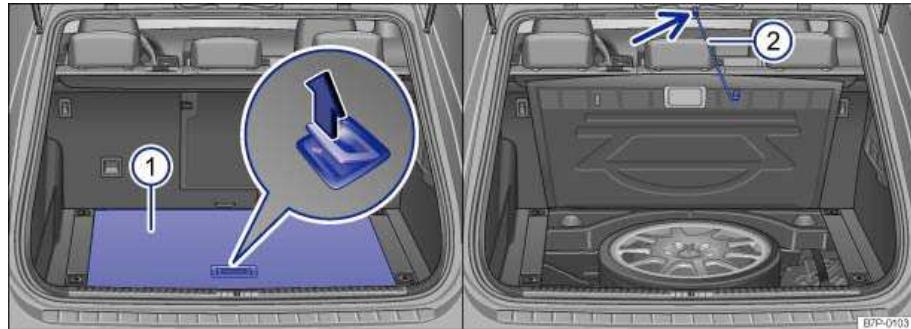

Fig. 106 In the luggage compartment: Lifting luggage compartment floor panel and securing it with retaining strap.
- Unhook the retaining strap ⇒ fig. 106 \(2\) from the top of the luggage compartment (arrow).
- Hook the retaining strap (2) underneath the luggage compartment floor panel (1) and lower the floor panel into place.